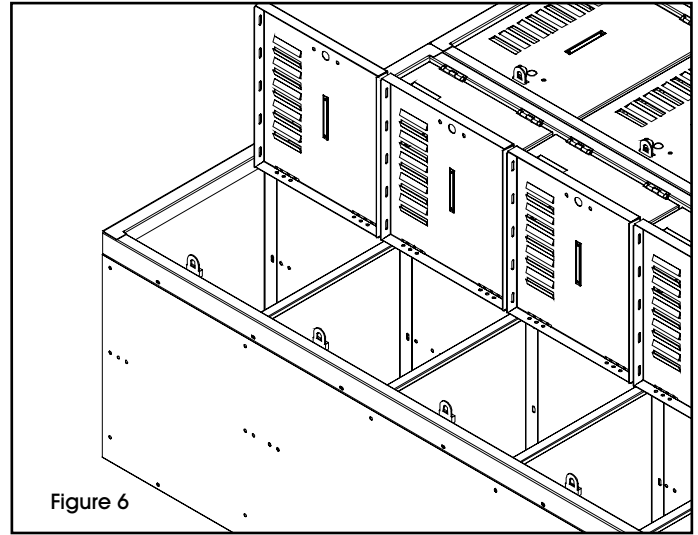

Figure 6
1. If joining a 3-wide unit beside another unit, temporarily install a bolt and nut into the third and sixth holes down from the top of the outer frame(s) that will be joined to the adjacent locker frame(s). (See Figure 6) The center locker frame can be bolted complete. If locker is just a stand alone 3-wide unit, finish attaching the frames using 38 bolts and nuts. Check and tighten all permanent bolts.